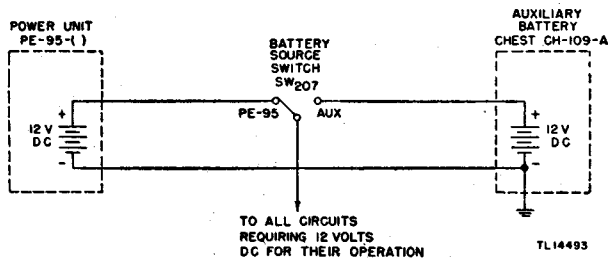

Figure 94. Battery source switch—functional diagram.
**159. Battery Source Switch SW207 (fig. 94)**